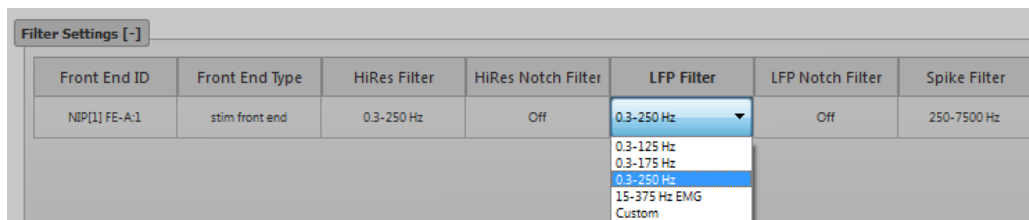

Figure 3-10 Trellis Instruments – Explorer processor configuration
- **Filter Settings.** This panel provides the FE digital signal processing filter settings for all appropriate FEs. Each FE is noted by its Front End ID. The specific cutoff frequencies for each filter type can be changed by double clicking on the values, as shown in Figure 3-10. Filter characteristics can be set for all FEs by clicking on the filter type, e.g., ‘HiRes Filter’. These digital filters are IIR filters with 4th order Butterworth characteristics by default and are applied to the data streams at the processor level. Notch filters can be applied to the Hi-Res and LFP data streams to remove common noise signals, such as 60-Hz AC line